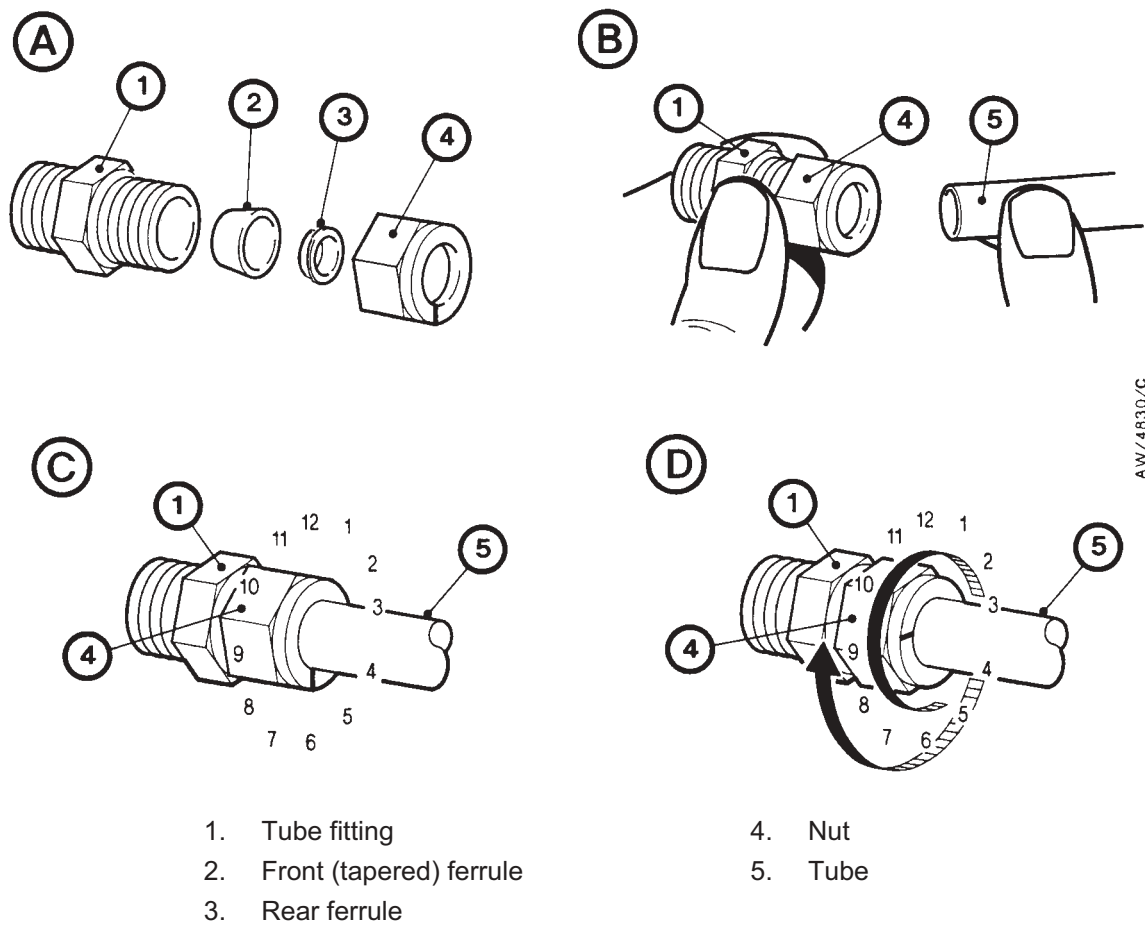

Figure 6-1 - Fit a Tube fitting
1. Refer to Figure 6-1 detail A. Undo and remove the nut (4) from the tube fitting (1). Ensure that the front (tapered) ferrule (2) and the rear ferrule (3) are correctly orientated as shown in detail A, then loosely refit the nut (4) to the tube fitting (1).
2. Refer to detail B. Insert the tube (5) through the nut (4) and into the tube fitting (1). Ensure that the tube rests firmly on the shoulder inside the fitting, and that the nut (4) is finger tight.
3. Tighten the nut (4) until you cannot rotate the tube (5). If you cannot turn the tube because of how it is installed, tighten the nut by $\frac{1}{8}$ th of a turn.
4. Refer to detail C. Mark the nut (4) at the six o'clock position.
5. Refer to detail D. Hold the body of the connector steady, then turn the nut (4) by $1\frac{1}{4}$ turns (to the nine o'clock position) to fully tighten the connection.